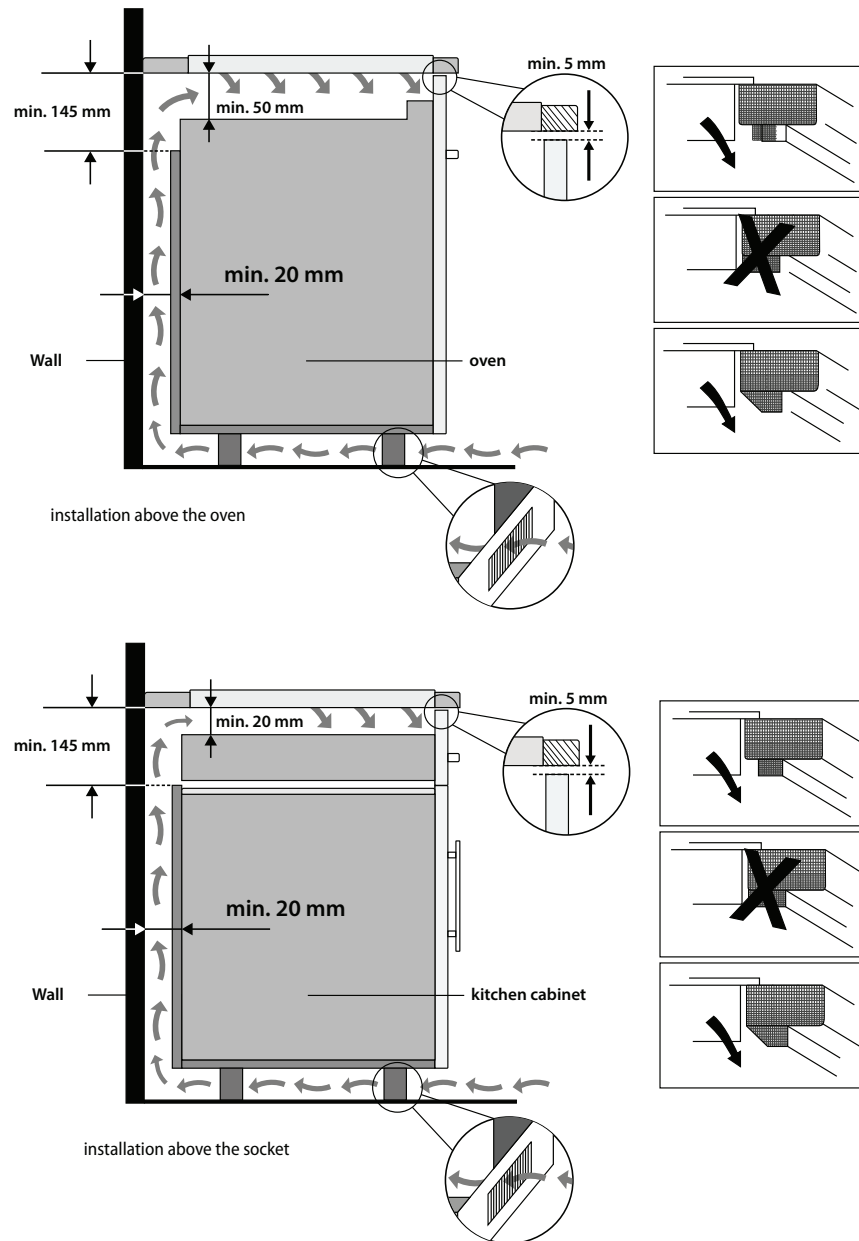

Fig. 8
6. For sufficient air circulation the appliance needs to be installed as shown in Fig. 8 and the cabinet must be designed so that the air can flow at the bottom - we recommend placing a ventilation grille in the lower plinth. Make sure that the ventilation space of 20 mm, between the drawer, the rear wall and 50 mm between the drawer and the hob, is free and under the worktop there must be a ventilation gap of min. 5mm, ideally if the design of the cabinet allows it, even more (Fig. 8).